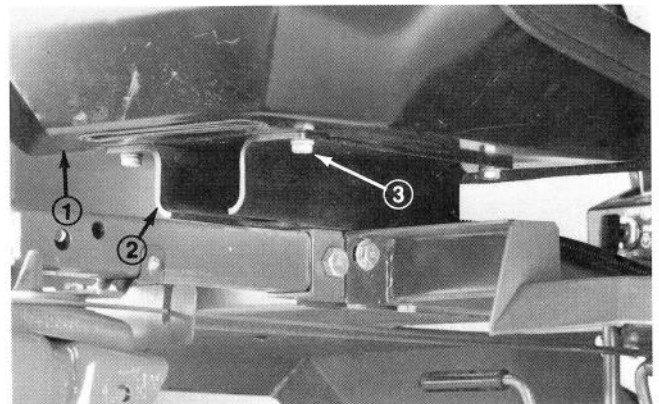

Figure 4
2. Position seat onto seat channel aligning mounting holes. Secure seat to channel with (4) 5/16-18 x 5/8" lg. capscrews and lockwashers (Fig. 4). Adjust seat to a comfortable operating position. Refer to Seat Adjustment, page 24.